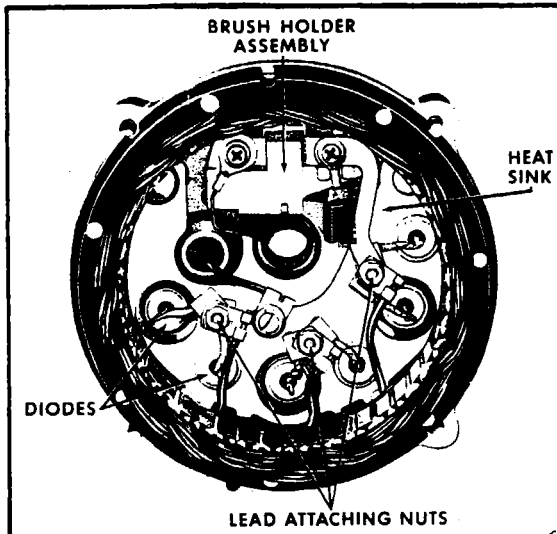

Figure 11-23. Slip Ring End Frame
b. **STATOR CHECKS:** To check the stator windings, remove all three stator lead attaching nuts (Refer to Figure 11-23), and then separate the stator assembly from the end frame. The fit between stator frame and end frame is not tight, and the two can be separated easily.